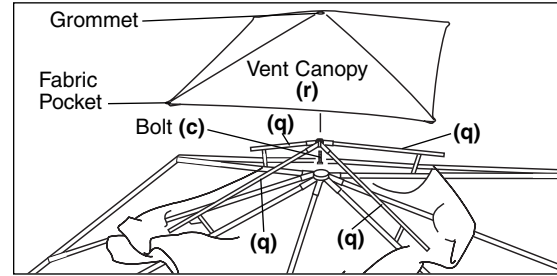
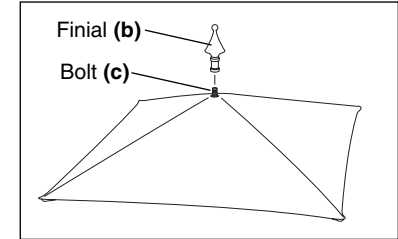

Fig. 8
Fig. 9
- Attach vent cover (r) to assembled vent hub/frame by sliding bolt (c) through hub and grommet in vent cover. Pull fabric pockets in corners of vent canopy over ends of vent poles (q) (Fig. 8). Screw on finial (b) to secure (Fig. 9).